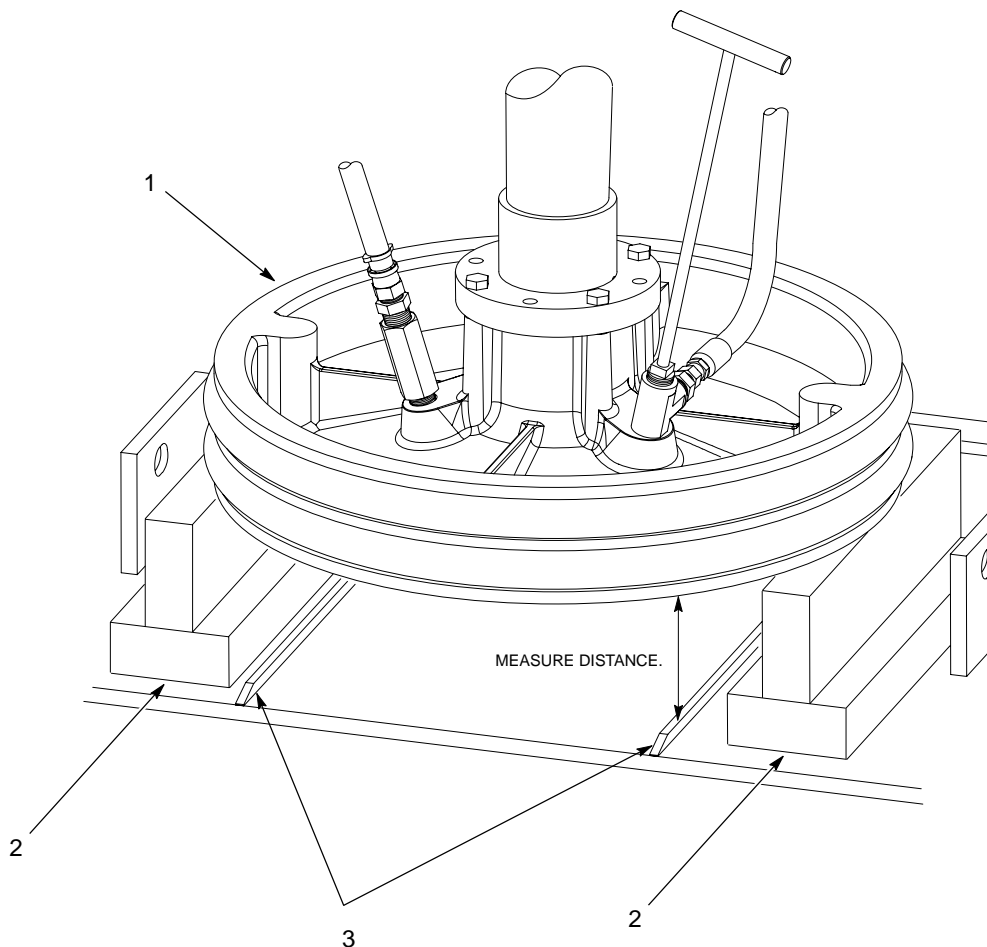

Figure 2 Follower Plate Measurement
4. See Figure 2. Measure and record the distance between the bottom of the follower plate (1) and the top of the base drum rails (3).